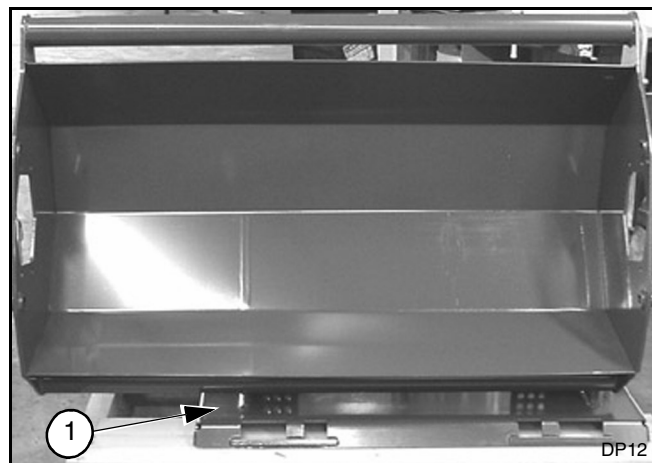

Figure 17.
Rotate the tiller chassis (1) so that it rests on the attach bracket as shown in Figure 17.